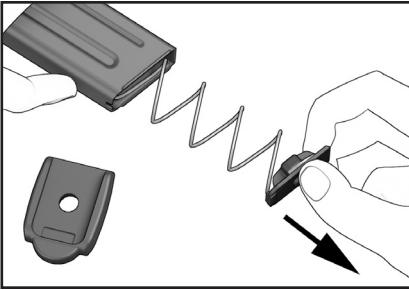

Figure 34
- Gradually allow the locking plate and magazine spring to expand out of the magazine housing (see Figure 34).